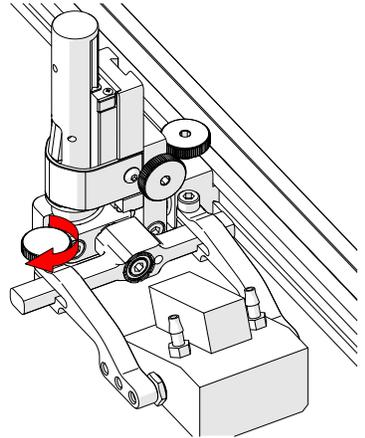

Fig. 48 - Tighten arm knob
7. Tighten the probe holder arm adjustment knob (Fig. 48).